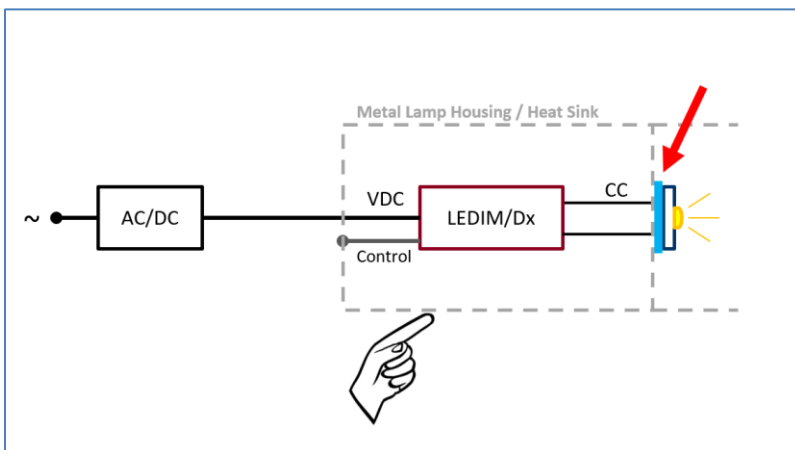

Figure 10: Critical Condition: Heat Sink connected to lamp housing with Alu PCB
- When the LED engine's PCB is made of Aluminum, it might be a critical condition to have the engine's heat sink electrically connected to the touch surface (e.g., the lamp housing). The parasitic capacity of the LED engine can cause malfunctions in touch dimming here. Please use thermal conducting pads⁷ instead of thermal paste (blue pad in Figure 10) to avoid.